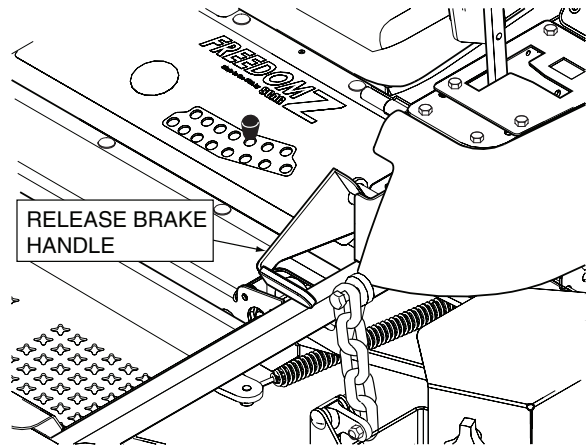

Figure 6-1. Brake Adjustment
2. Disengage the parking brake. See Figure 6-1.